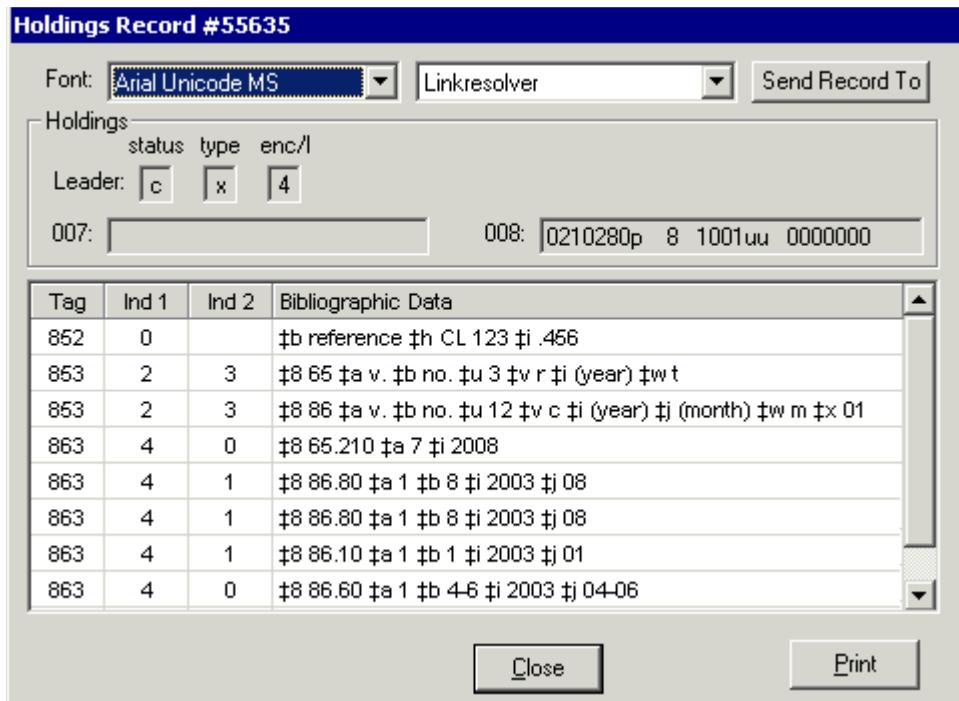

Figure 9-38. MARC Holdings Record after collapsing issues
*Result: The MARC holdings record has a new 853-863 pair (see Figure 9-38). Close this dialog box by clicking the **Close** button.*